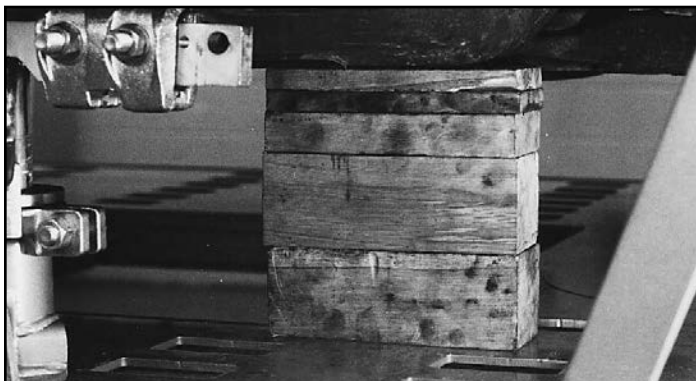

Figure 19
3. Some vehicles cannot withstand extreme weight on the rocker panels. Wood blocks, or a combination of wood blocks and auxiliary ram, may be used for support purposes in structural areas such as subrails located inboard of rocker panels. (See Figure 19.)